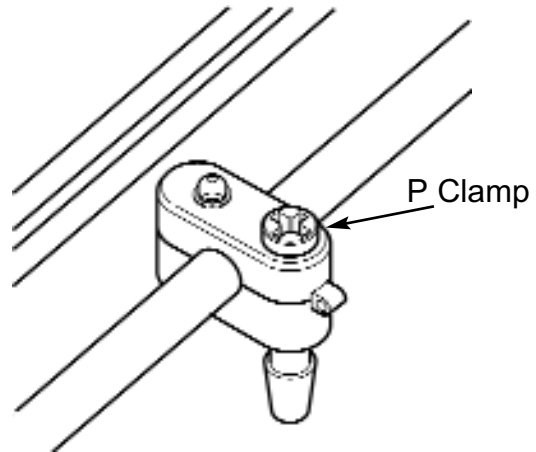

Fig 4 - Fit P clamp
- FIG 4 INSTALL P CLAMP
- Screw p clamp to bulkhead ensuring it is located Approx. 100 mm (4") from rear housing (Fig 4).
- Secure cable by screwing 'P' clamp to bulkhead ensuring it is located approx. 100 mm (4") from strainer outlet (Fig 4).